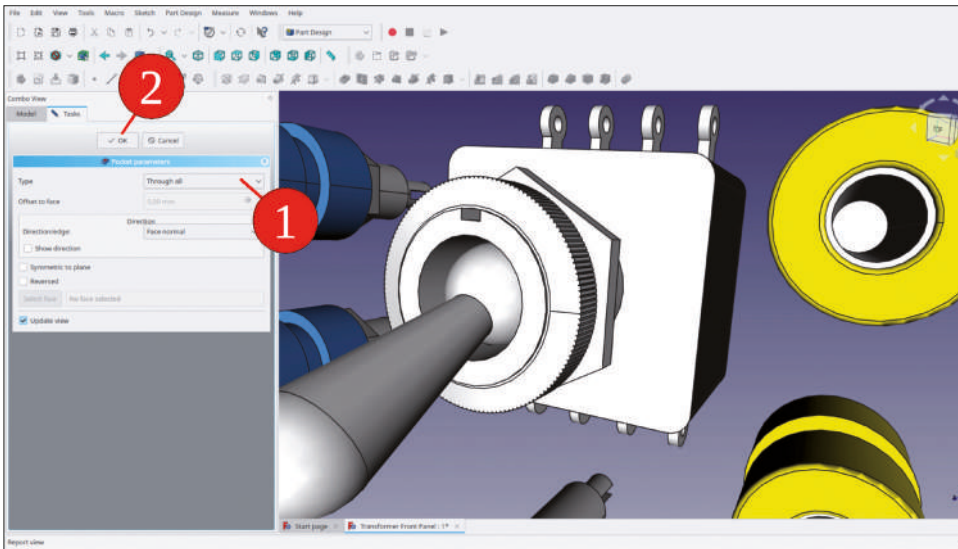

Figure 9-27
- With the SubShapeBinder marked in the tree view, click the 'Pocket' tool button. In the task window, for the type, select 'Through all' (Figure 9-27). Close the task window with the 'OK' button.